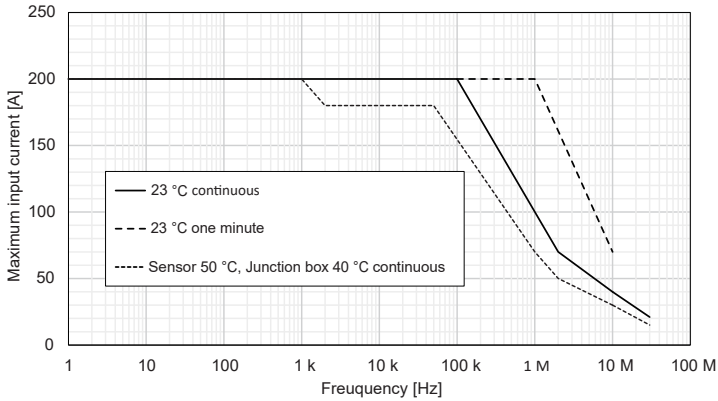

Fig. 3 Frequency derating (CT6704)
Figs. 3 and 4 show the derating curve when a sinusoidal current is input in an environment within the accuracy guarantee temperature and humidity range. The device temperature is increased if the ambient temperature (TA) is increased or if the current under measurement contains high-frequency components. As a result, the current that can be input continuously is decreased.